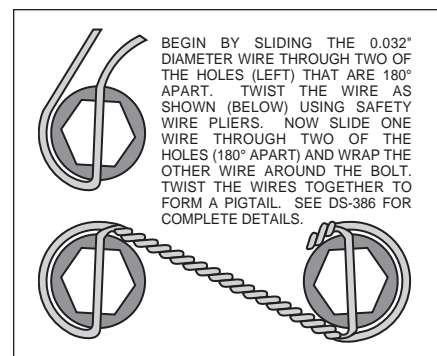

Figure 3. Safety Wire Diagram
- Install the grease seal (4) into the backside of the hub (2).
- Pack the small outer bearing cone (10) with high temperature disc brake bearing grease and install into front side of the hub (5). Slide the hub assembly (2, 3, 4 and 10) onto the spindle. Secure using spindle washer (11), stock adjusting nut, and nut locking device. Adjust wheel bearing pre-load per Original Equipment Manufacturer (OEM) specifications.
- Install the o-ring (13) and the dust cap (12) into the hub (2). **NOTE:** O-ring (13) friction will not allow cap (12) to unscrew on its own.
- With the larger I.D. side of the rotor (5) facing away from the hat (6), bolt rotor (5) to hat (6) through the backside of the rotor using washers (7) and bolts (8). Using an alternating sequence, apply red *Loctite*® 271 to the threads and torque bolts to 155 **in-lb**. For an added measure of security, the bolts may be safety wired using standard 0.032 inch diameter stainless steel safety wire as shown in Figure 3. Please refer to Wilwood's data sheet DS-386 (available at www.wilwood.com/Pdf/DataSheets/ds386.pdf) for complete safety wire installation instructions.
- Slide the rotor/hat assembly over the studs (1) in the hub (2) taking care to align the small countersunk holes in the hat (6) with the small threaded holes in the hub (2). Install three flat head socket head screws (9) through the small holes in the hat (6) and torque to 85 **in-lb**.
- Mount the caliper (14) onto the customer supplied mounting bracket using hardware supplied by the spindle manufacturer. Ensure that the caliper is mounted so the largest pistons are at the rotor exit end of the caliper, in relation to the direction of rotor rotation. Temporarily tighten the mounting bolts and view the rotor (5) through the top opening of the caliper. The rotor should be centered in the caliper. If not, adjust by adding shims (customer supplied) placed between the caliper mounting bracket and the caliper. Finger tighten and recheck alignment. Always use the same amount of shims on each of the two mounting bolts. Once the caliper alignment is correct, remove the caliper bolts one at a time and apply red *Loctite*® 271 to bolt threads and torque to specification.
- Remove the caliper bridge spacer and bolt. Install the disc brake pads (15), then reinstall the caliper bridge spacer and bolt.